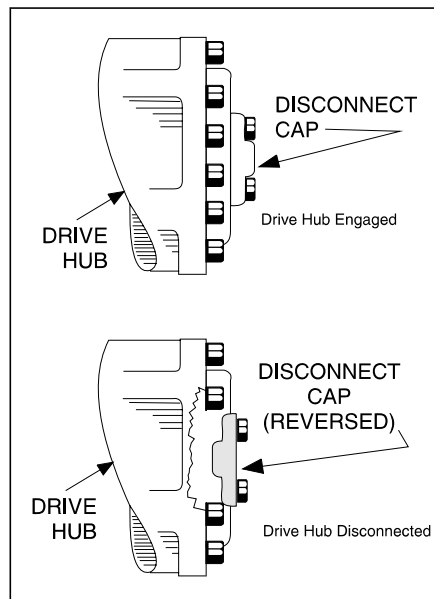

Figure 4-5. Drive Disconnect Hub
2. Disconnect drive hubs by inverting disconnect cap. (See Figure 4-5.) After towing the machine, complete the following:
3. Reconnect drive hubs by inverting disconnect cap. (See Figure 4-5.)